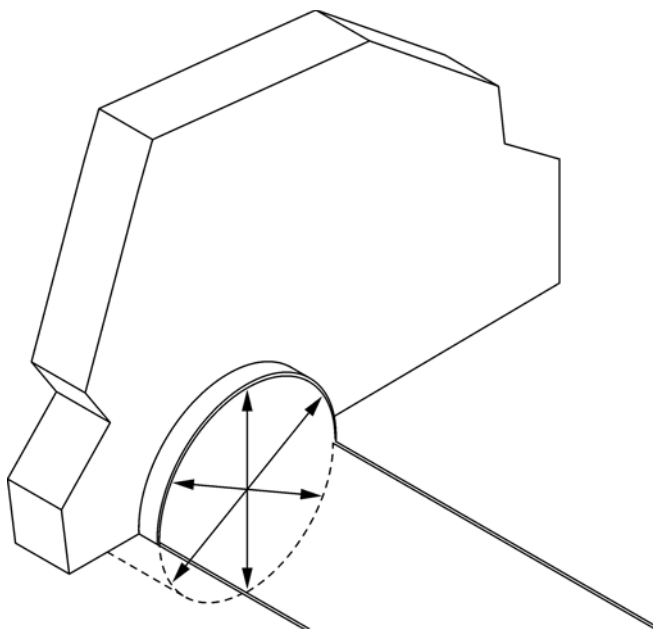

Figure 17 Pipe diameter measurement
1. Measure the inside pipe diameter (I.D.) at three locations (Figure 17). Be sure that the measurements are accurate.